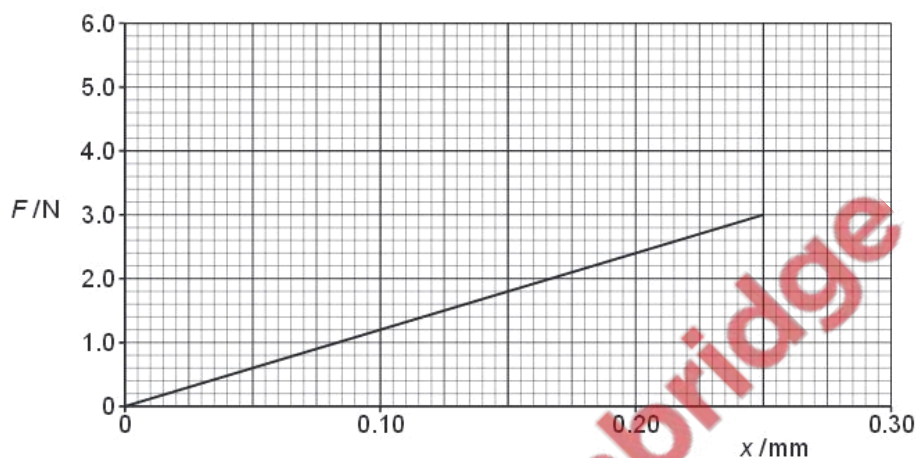

Fig. 5.1
- (b) A load F is suspended from a fixed point by a steel wire. The variation with extension x of F for the wire is shown in Fig. 5.1.
- (i) State two quantities, other than the gradient of the graph in Fig. 5.1, that are required in order to determine the Young modulus of steel.
- (iii) A load of 3.0 N is applied to the wire. Use Fig. 5.1 to calculate the energy stored in the wire.
On Fig. 5.1, sketch the variation with x of F for the copper wire for extensions up to 0.25 mm. The copper wire is not extended beyond its limit of proportionality. [2]